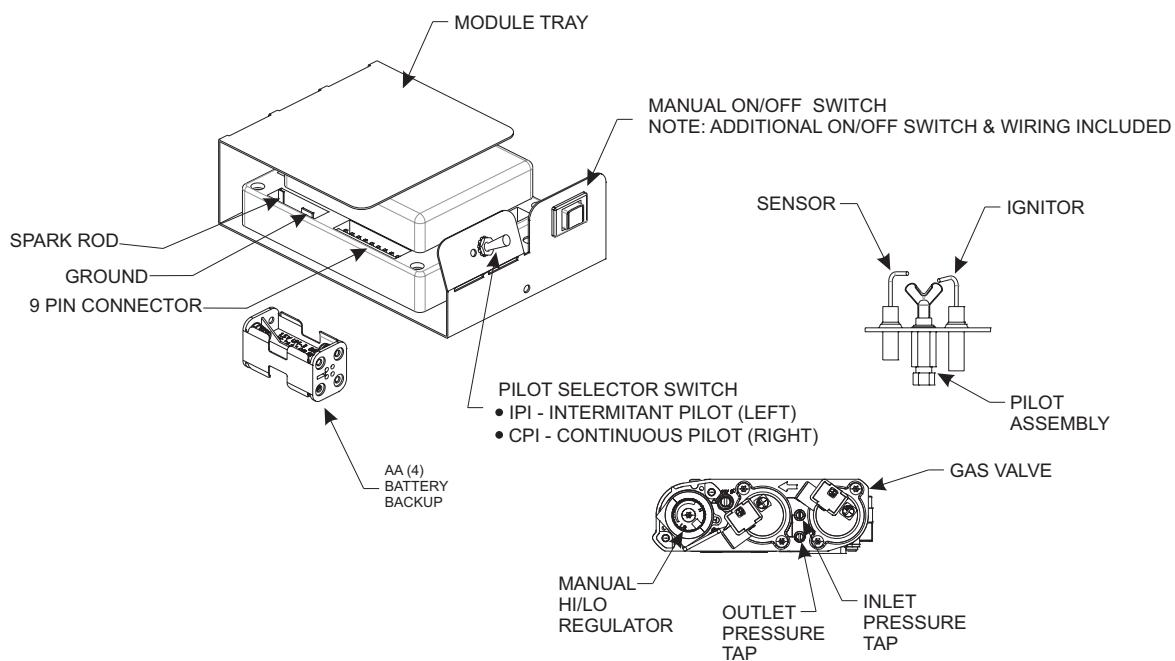

Figure 75
See Figure 75.
3. The gas valve has inlet and outlet pressure taps as shown in **Figure 75**. Refer to pages 8 and 17 for gas pressure requirements.
NOTICE: The gas control has a manual HI/LO flame adjustment knob (regulator) that allows you to increase or decrease the height of the burner flame. **See Figure 75.** Rotate the HI/LO knob counterclockwise to “HI” to increase the flame height, and clockwise to “LO” to decrease the flame height.
To connect the remote receiver to the appliance, first disconnect the ON/OFF switch wires from the white and green wire connectors and connect the wires from the remote receiver to the green and white wire connectors. **See Figure 75.**